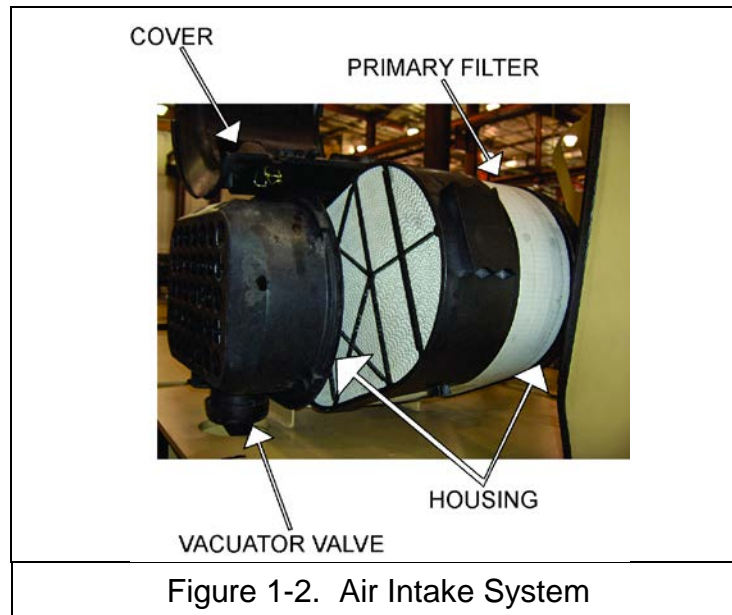

Figure 1-2. Air Intake System
1. Shut off the engine and remove the housing service cover. See Figure 1-2.